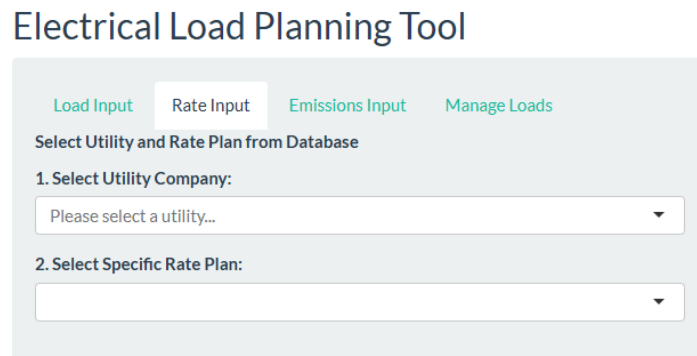

Figure 4: Selecting a Utility Company and Rate Plan
- Under 1. Select Utility Company, choose the utility that serves your facility. The utility list is populated from the local database and displayed alphabetically (Figure 4).